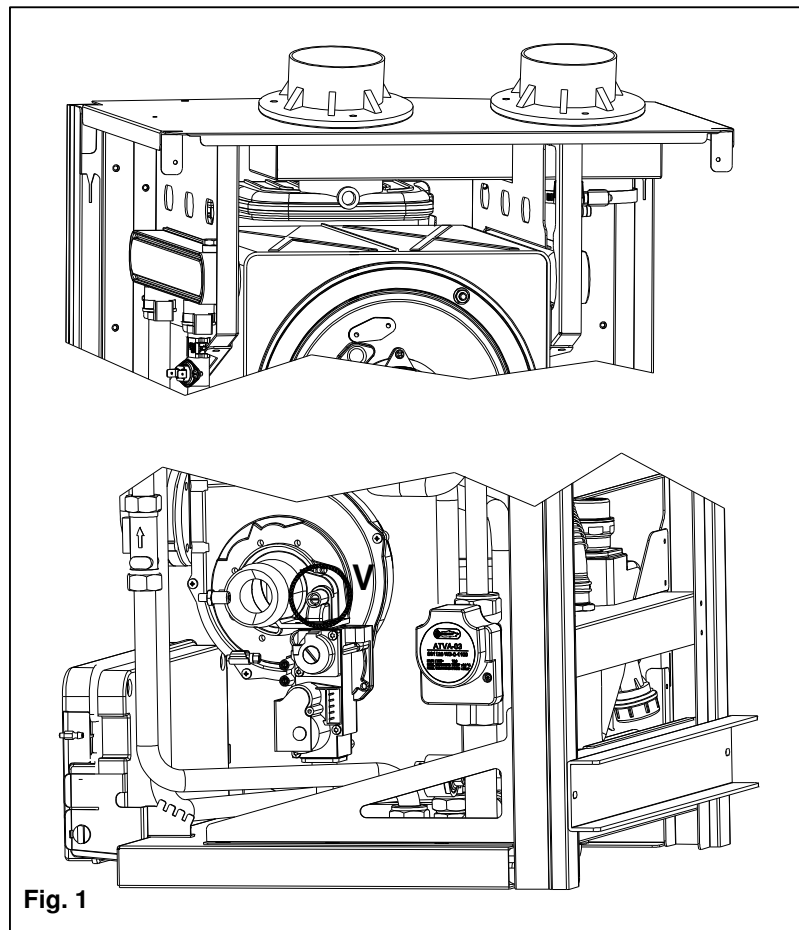

Fig. 1
- If the CO₂ value does not correspond to the specified value, adjust screw **V** (see fig. 1) on the venturi clockwise to reduce the CO₂ value or anticlockwise to increase it;